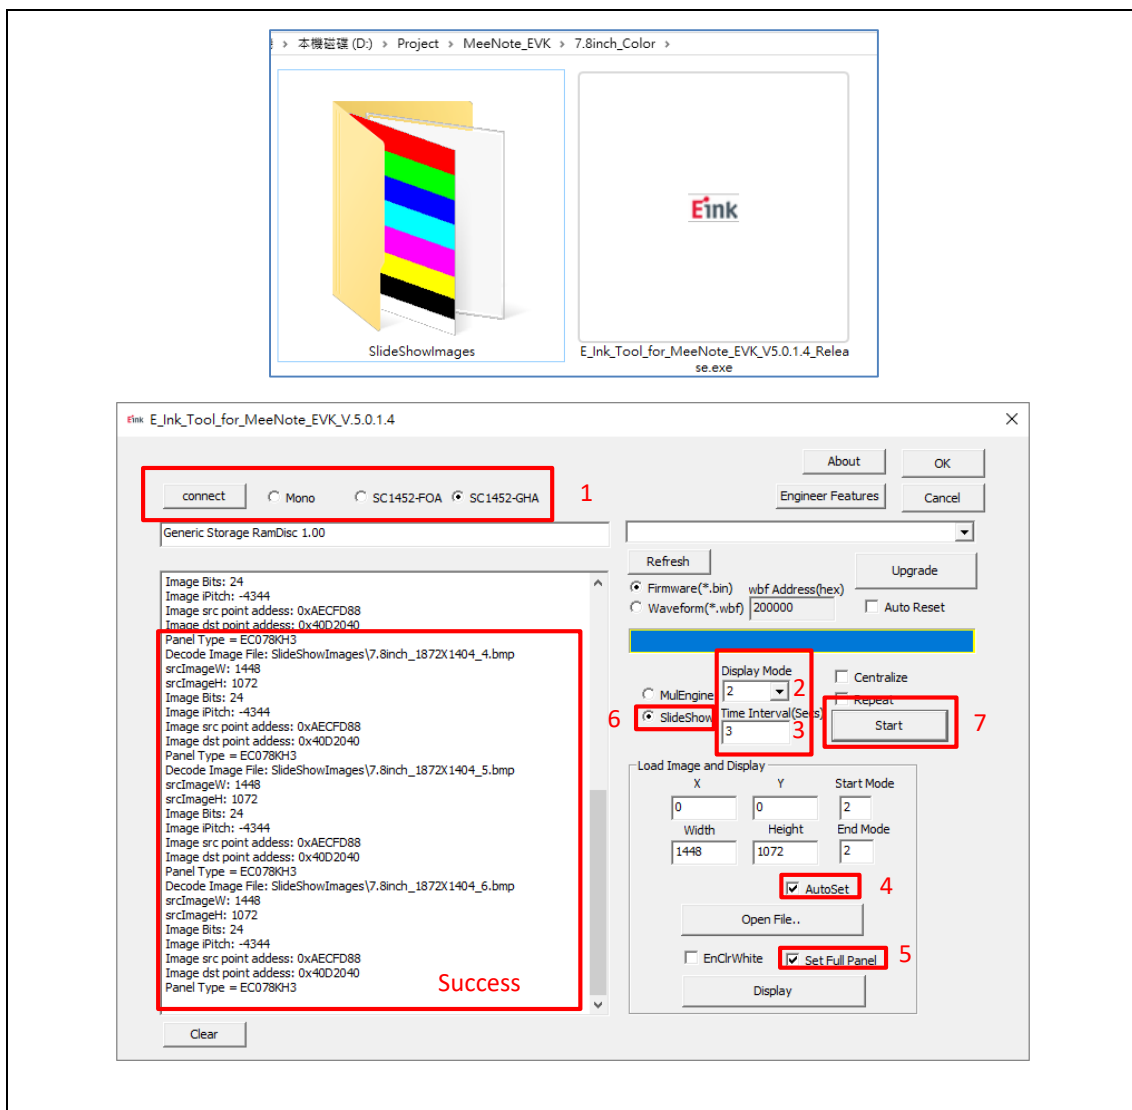

Figure 3.3 Update multiple pictures to ePaper display
- Execute E_Ink_Tool_for_MeeNote_EVK_V5.0.1.4.exe (refer to Figure 3.3)